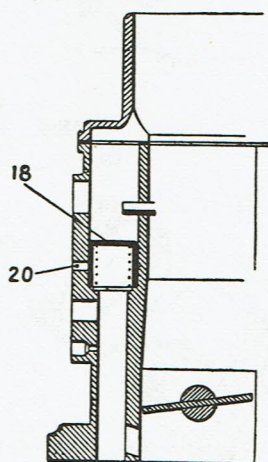
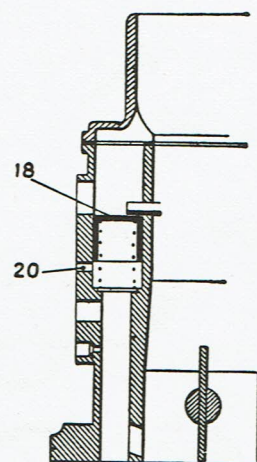

Fig 3
Fig 4
When the engine is running and the spring is warmed by the passage of hot air, the disc valve begins to turn, first taking the position of figure 4 where only port on the disc valve (shaded) is opposite the ports on the face, thus causing a progressive weakening of the mixture, this action continues until the disc valve ports do not communicate with the ports on the face (figure 5). At this point the choke is completely out of action and the engine is idling. At least, when the disc valve is in the position of figure 5, a light spring releases itself from the slot of the spindle (2) to keep the disc valve (1) out of action. In order that this necessary to considerably lower the temperature at which the spring is operative. This device aims at avoiding a too rapid or premature return to action of the choke when the engine cools slightly during a brief halt.
When the engine is running the depression acting in the channel (13) withdraws the membrane and frees the communication between (12), (11) and (10), which has the primary effect of weakening the mixture to stop the engine "hunting" through excess fuel. Then as the spring is warmed by the hot air, the disc valve begins to turn, first taking the position of figure 4, where only one port of the disc valve (shaded) communicates with the ports on the face, thus causing a progressive weakening of the mixture and this continues until the disc valve ports do not communicate with any of the ports on the face (figure 5). At this moment, the starter is completely out of action and the engine is idling.
As the spring is warmed by the passage of hot air, the disc valve begins to turn, first taking the position of figure 3 where only one of the ports of the disc valve (shaded) communicates with the orifices on the face, thus causing a weakening of the mixture. After acceleration, the butterfly is open or partly open, the depression in the inlet manifold becomes weak, the piston (18) rises again (figure 4) and the passage of fuel through the large channel (20) is unrestricted. This increase in diameter with a subsequent increase in volume of the mixture to ensure drive away.
As long as the choke is not cutt off, the action of the spring continues until the disc valve ports do not communicate any more with the ports on the face (figure 4) and, at this moment the starter is completely out of action.